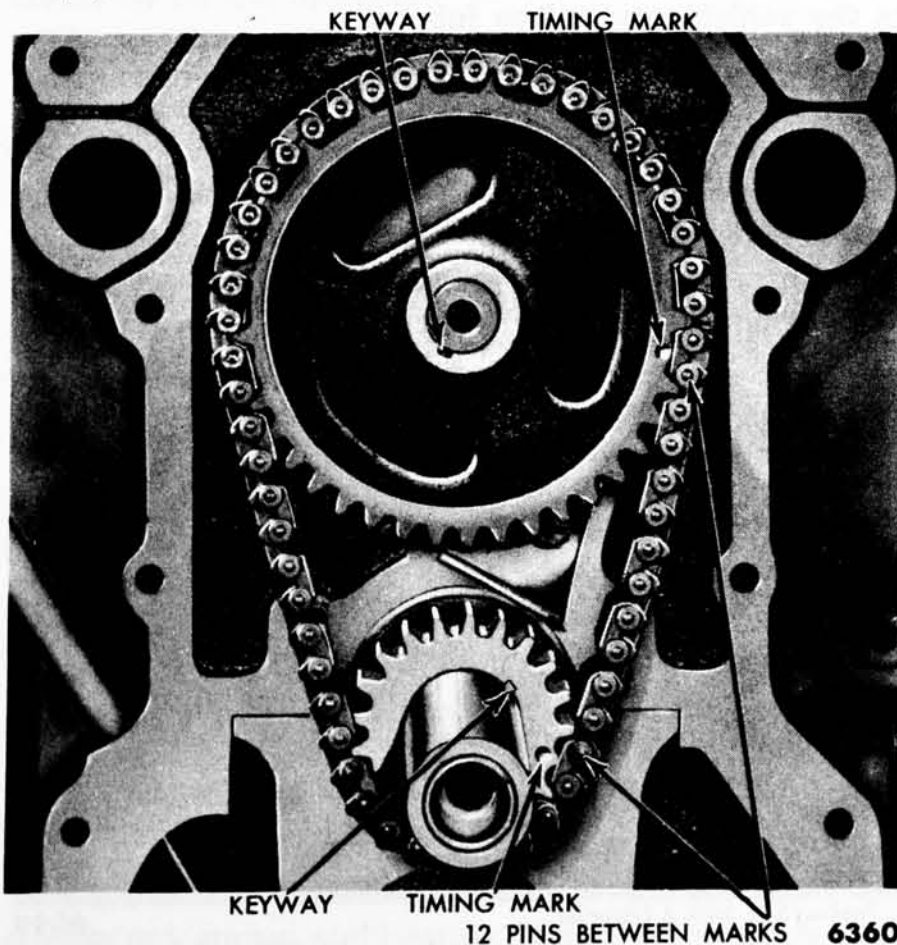

Fig. 18—Aligning Timing Marks
water pump, and fan as a unit. Crank the engine until the timing marks on the sprockets are positioned as shown in fig. 18.
(2) **INSTALLATION.** Position the camshaft sprocket and timing chain on the camshaft. Be sure the timing marks on the camshaft sprocket and the crankshaft sprocket are positioned as shown in fig. 18, and there
Crank the engine until the timing marks on the camshaft sprocket and the crankshaft sprocket are positioned as shown in fig. 18.
Install the camshaft sprocket, crankshaft sprocket, and timing chain. Be sure the timing marks on the camshaft sprocket and crankshaft sprocket are positioned as shown in fig. 18, and there are 12 link pins between the marks. Install the fuel pump eccentric counterweight, eccentric, spacer, washer, and camshaft sprocket bolt.